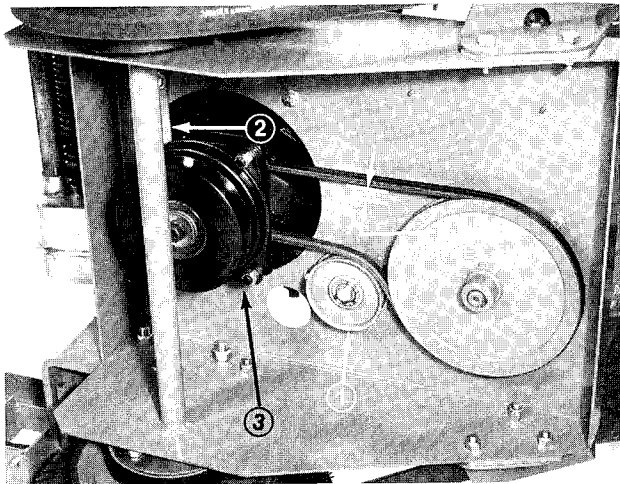

Figure 21
1. Loosen capscrew and flange nut securing idler pulley to frame (Fig. 21). Slide pulley outward relieving belt tension.
2. Remove left front engine mounting bolt securing clutch retainer to frame (Fig. 21). Unhook retainer from clutch and remove retainer.
3. Disconnect in-line wire connector and remove belt from drive pulley and clutch (Fig. 21).
6. Position and secure idler pulley to frame so belt deflection is no more than $11/64$ " when 5–1 1/2 lb of force is applied to mid span of long leg of belt (Fig. 21).
1. To adjust clutch, tighten or loosen locknuts on flange studs (Fig. 21).